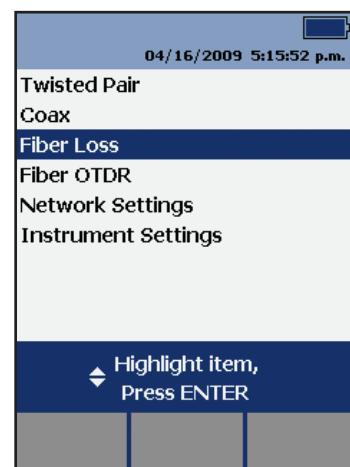
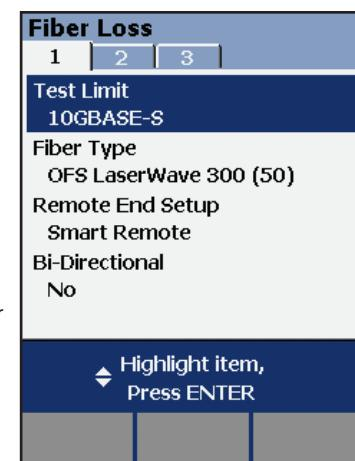

Figure 2
Figure 3
- b. Select Fiber Loss from the Setup screen as shown in **figure 2**. Under this setup screen, choose from a menu of standards to select the correct limits. Select the Test Limit option as shown in **figure 3**. Note that the selected fiber type limits the test limit choices. Popular fiber types are also included in the instrument menu.
As **figure 3** shows, the same setup screen allows you to select the "Remote End Setup". When using the DTX Smart Remote equipped with the fiber test module, select "Smart Remote" as we have done in this example. In this mode, the tester automatically measures the length of the link-under-test.
Bidirectional testing – If you want to test each fiber in both directions, don't forget to select that option in the setup screen (see **Figure 3**). When the tester prompts you to make the connection to test in the second direction, remember to switch the TRC at the link end. DO NOT remove the TRCs from the tester connections.